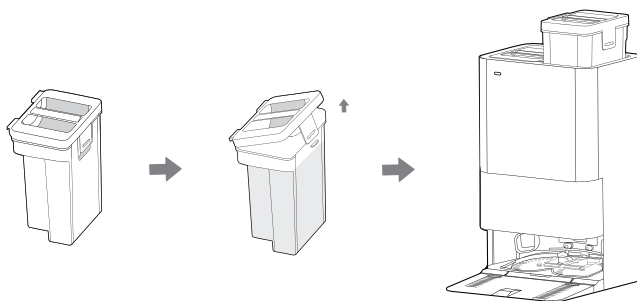

Fig. 5
10. Before starting first cleaning session, remove the clean water tank on the right side, open the lid, add clean water with Hoover detergent (35602971-DETHHOOV) [Fig. 5]